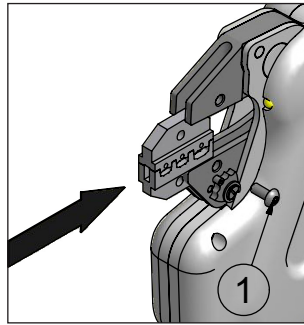

Figure 5
8.1.1 Fitting die sets without additional positioning guides, e.g. for insulated/non-insulated cable connectors, through and coax connectors, wire-end sleeves, RJ plugs, etc. (Figure 5, 6)
2. Push the closed crimping die set – as shown in Figure 5 – into the socket on the die until the lower piece of the die set can be loosely screwed into place.
2. Push the closed crimping die set – as shown in Figure 5 – into the socket on the die until the lower piece of the die set can be loosely screwed into place using the M4x16 screw.